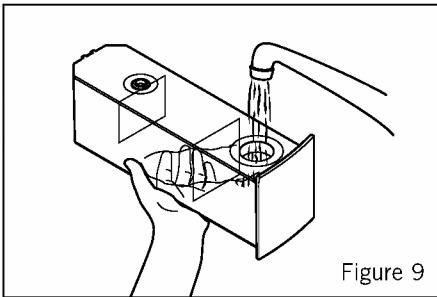

Figure 9
- Fill the water tank with fresh water up to its maximum marking shown on the right hand side of the tank. See Figure 9.